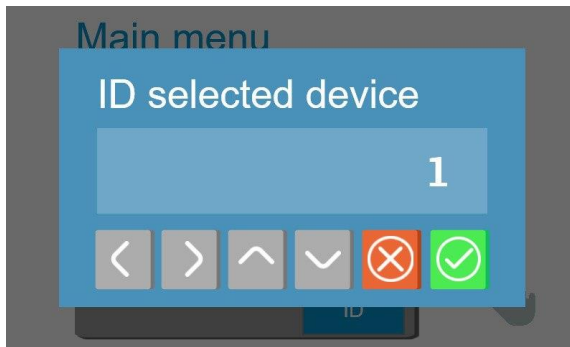
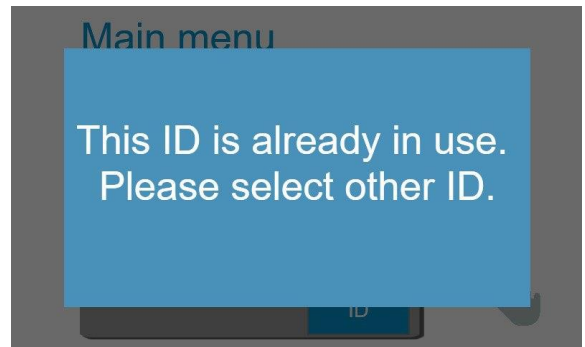

Figure 12 – CAN ID menu
Figure 13 – CAN ID menu
5. Enter the ID of the connected driver (fig. 12). Use the left and right arrows to select the digit to change, use the up and down arrows to change the value. Press  button to save the changes and exit menu. Press  button to exit menu without changes. If the entered CAN ID is already used on another additional device, an error message will appear Fig. 13.